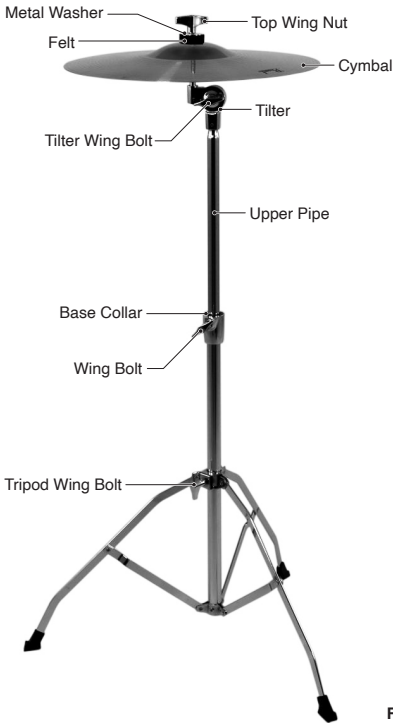

Fig. 19
2. Place the cymbal between the two felts on the cymbal tilter located at the top of the stand. Then add the metal washer and top wing nut and tighten to set. Loosen the tilter wing bolt to adjust the tilt, set it to your desired angle, and tighten. To change the height of the cymbal, loosen the base collar wing bolt, lift or lower the upper section to your desired height, then tighten to secure (Fig.19).